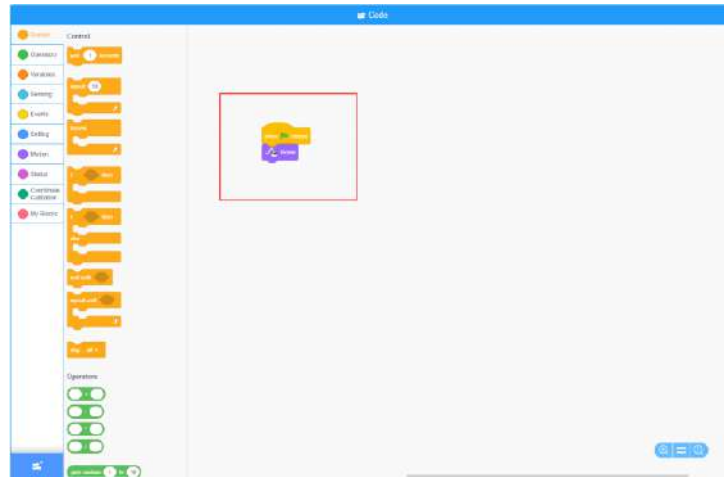

Figure 3.2 Start programming
- Step 5** After connecting Dobot Magician Lite and DobotBlock, you can drag blocks in the block area to start programming, as shown in Figure 3.2, click  to move Magician Lite to the homing point.